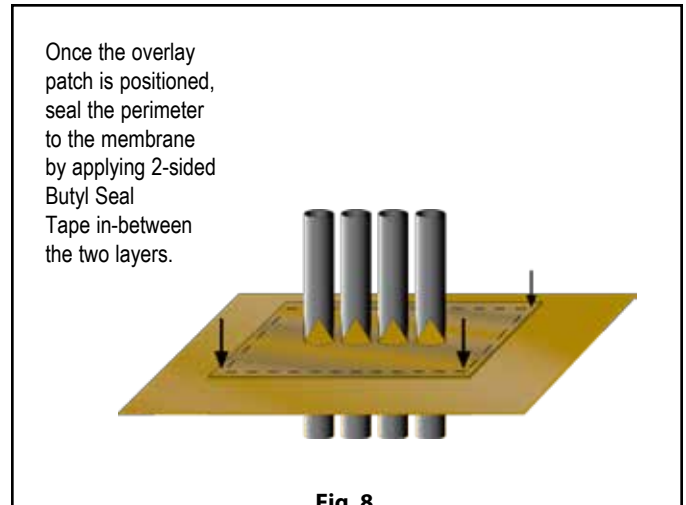

Fig. 8
- D) Once patch is positioned, seal the perimeter to the membrane by applying 2-sided Butyl Seal Tape in-between the two layers. (Fig. 8)